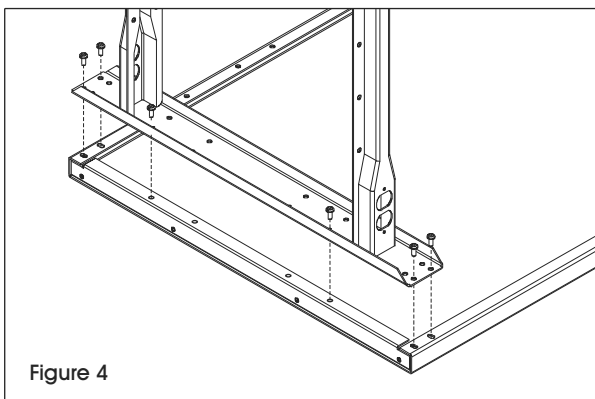

Figure 4
1. Align leg holes to end of tabletop. Secure with six 1/4"-20 x 5/8" bolts. Threaded inserts are provided on each tabletop end. (See Figure 4)